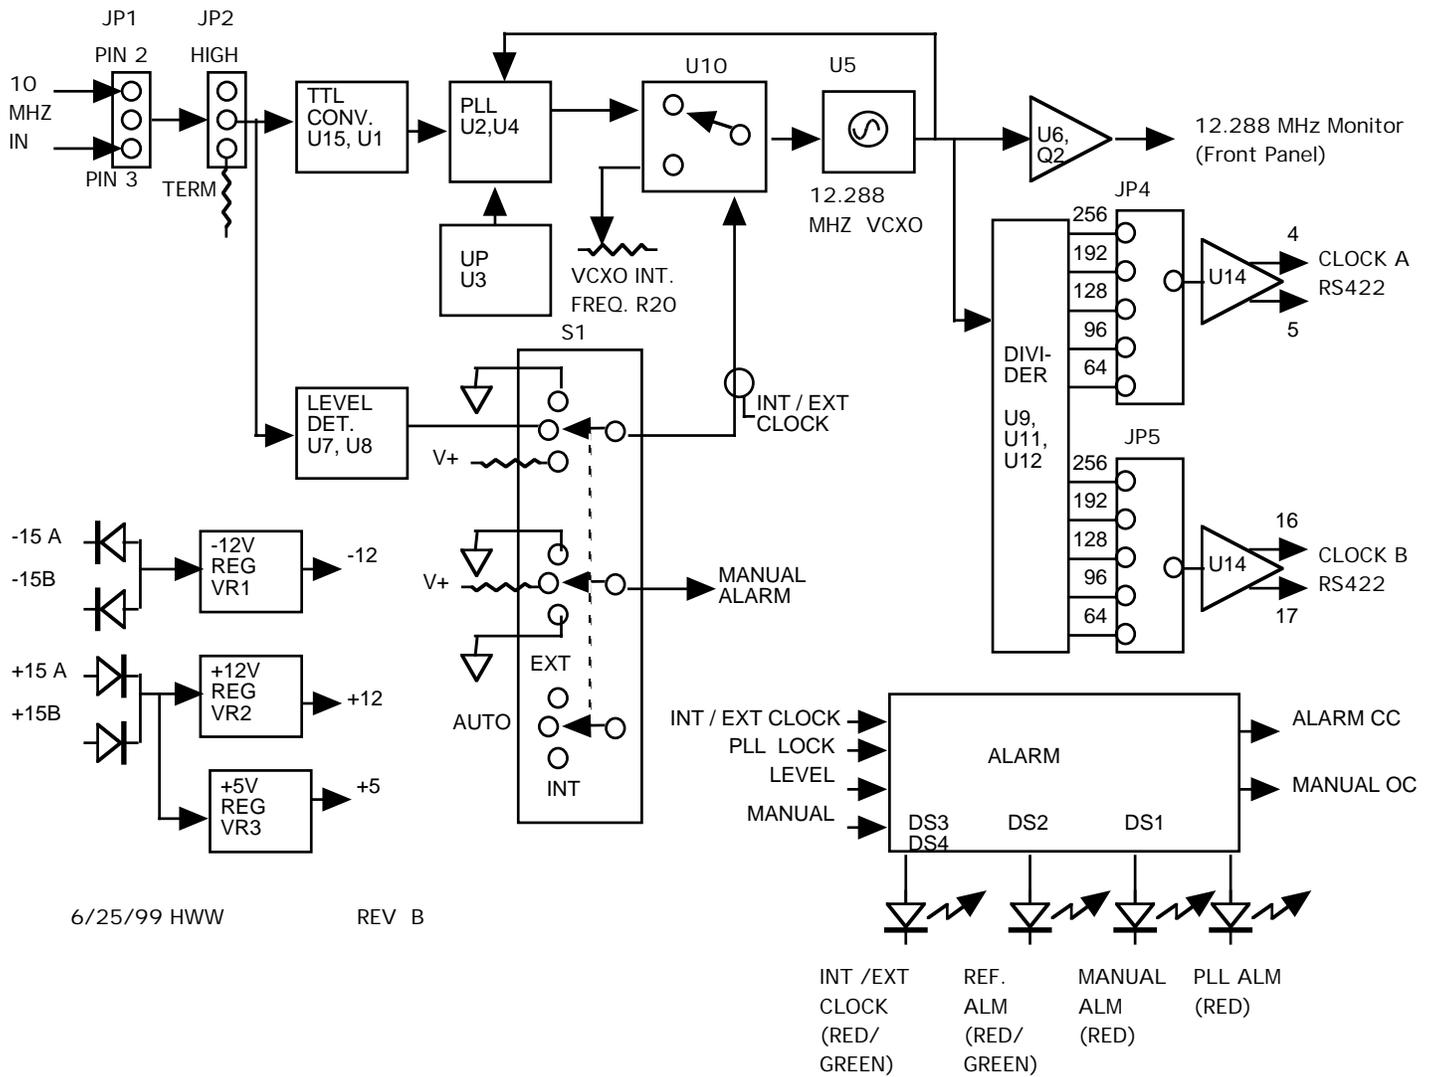

FIGURE 3.1 2099-42 BLOCK DIAGRAM
3.1 Block Diagram Discussion - 2099-42 (Figure 3.1) - The 10 MHz external reference signal goes to buffer amplifier U15 and then to U1 which squares up the incoming 10 MHz signal. This reference signal then goes to the synthesizer IC U2. U2 is programmed by controller U3 which provides data required for the synthesizer to function. The VCXO U5 provides the other input signal into the synthesizer U2. This is controlled through a switch consisting of U10 which determines whether the PLL is closed through loop amplifier U4 or if the frequency of the VCXO is determined by the front panel potentiometer R20 which sets the VCXO frequency when phase lock is broken or the external reference frequency has been removed. The output of U5, the VCXO also goes through buffer U6 and Q2 to a front panel test point TP1 for monitoring this frequency. The 12.288 Mhz output of the VCXO also goes to divider U9, U11, and U12. The outputs of U11 and U12 provide the clock signals at 64, 128, 256, 96, and 192 kHz. These signals go to jumpers JP4 and JP5 which are used to select the desired output clock frequency. These signals go to RS422 driver U14 to provide the clock A and clock B RS422 outputs.